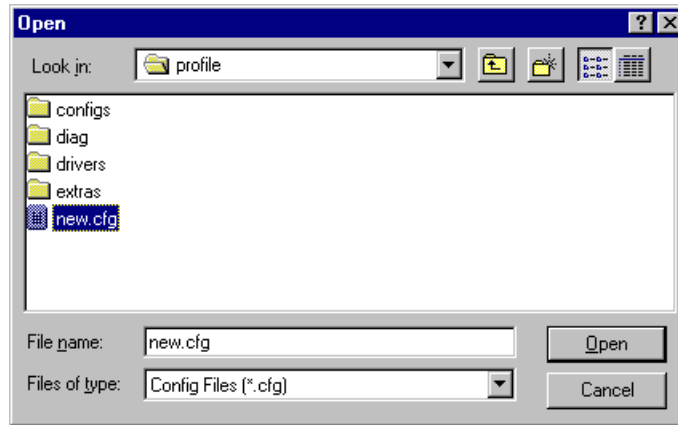

Figure 5. Open dialog box for loading a configuration file
1. Choose **File | Load Configuration File**. The Open dialog box appears (Figure 5).